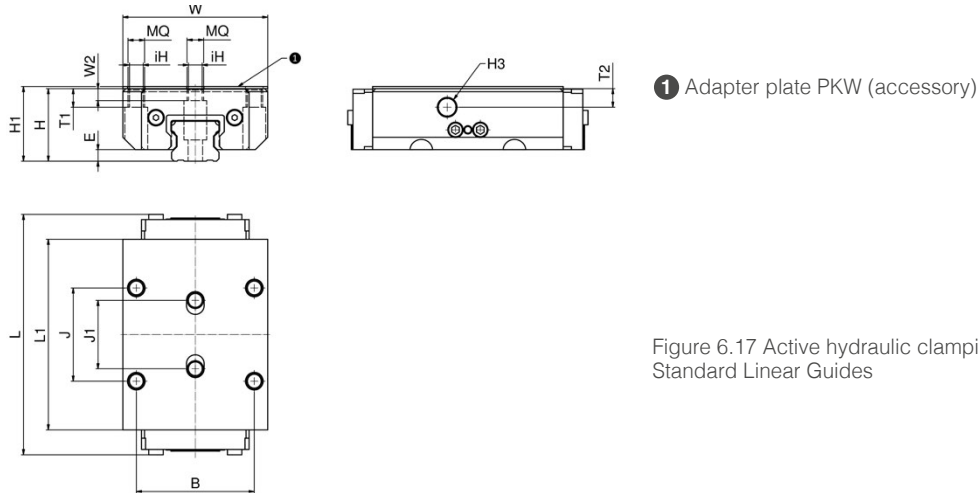

Figure 6.17 Active hydraulic clamping elements for Standard Linear Guides
Hydraulic clamping elements are available as active (NO) variants. Large-area contact profiles are pressed directly by the hydraulic oil against the free surfaces of the rails via a piston principle. A preloaded return spring ensures a short release cycle. The dimensions these clamping elements are summarized in Figure 6.17 and Table 6.18.